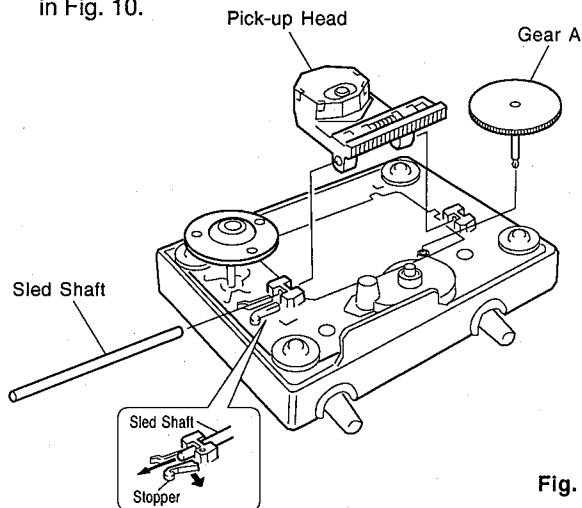

Fig. 10
- Remove the Gear A in Fig. 10.
- Pull out the Sled Shaft and remove the Pick-up Head in Fig. 10.